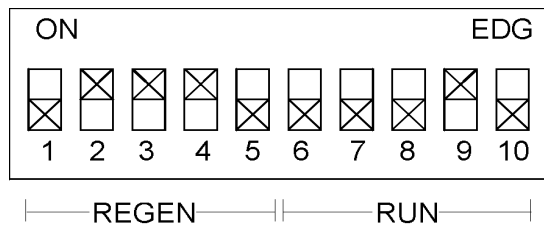

fig. 1
3. Switch the following Dip Switches to the ON position, in the following order: 9, 4, 3, 2 (giving fig. 1 again)